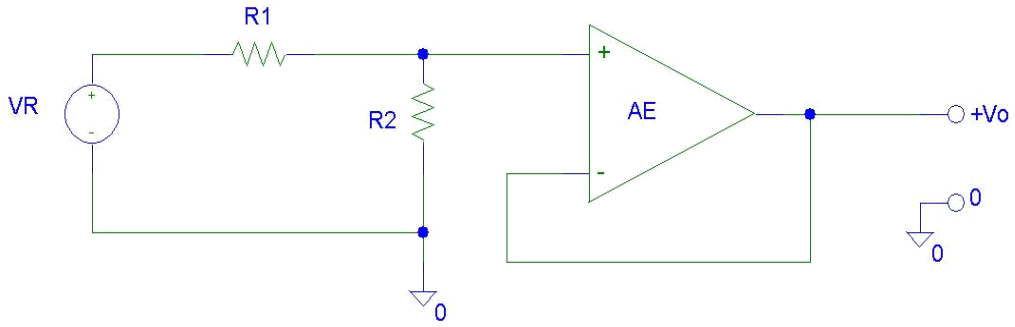

Fig.2. The block diagram of the voltage regulator with $V_o < V_{REF}$
The simulation is performed at two different output voltages: $V_o < V_{REF}$, and $V_o > V_{REF}$ respectively. For the first case ($V_o < V_{REF}$), the simplified equivalent circuit of the voltage regulator is presented in Fig.2. By considering an ideal error amplifier (AE), the output voltage is: